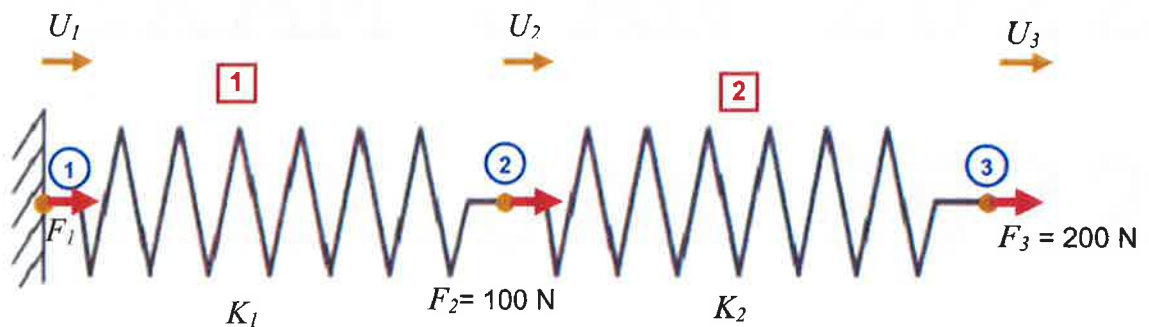

FIGURE Q1
- i. There are **FIVE (5)** pages in this Question Booklet including the cover page .
1. **FIGURE Q1** shows two linear springs 1 and 2 that are connected at node-2. The stiffness of spring-1 K_1 is 5 N/mm, and for spring-2 K_2 is 10 N/mm. The applied nodal force at node-2 is $F_2 = 100$ N and at node-3 is $F_3 = 200$ N.